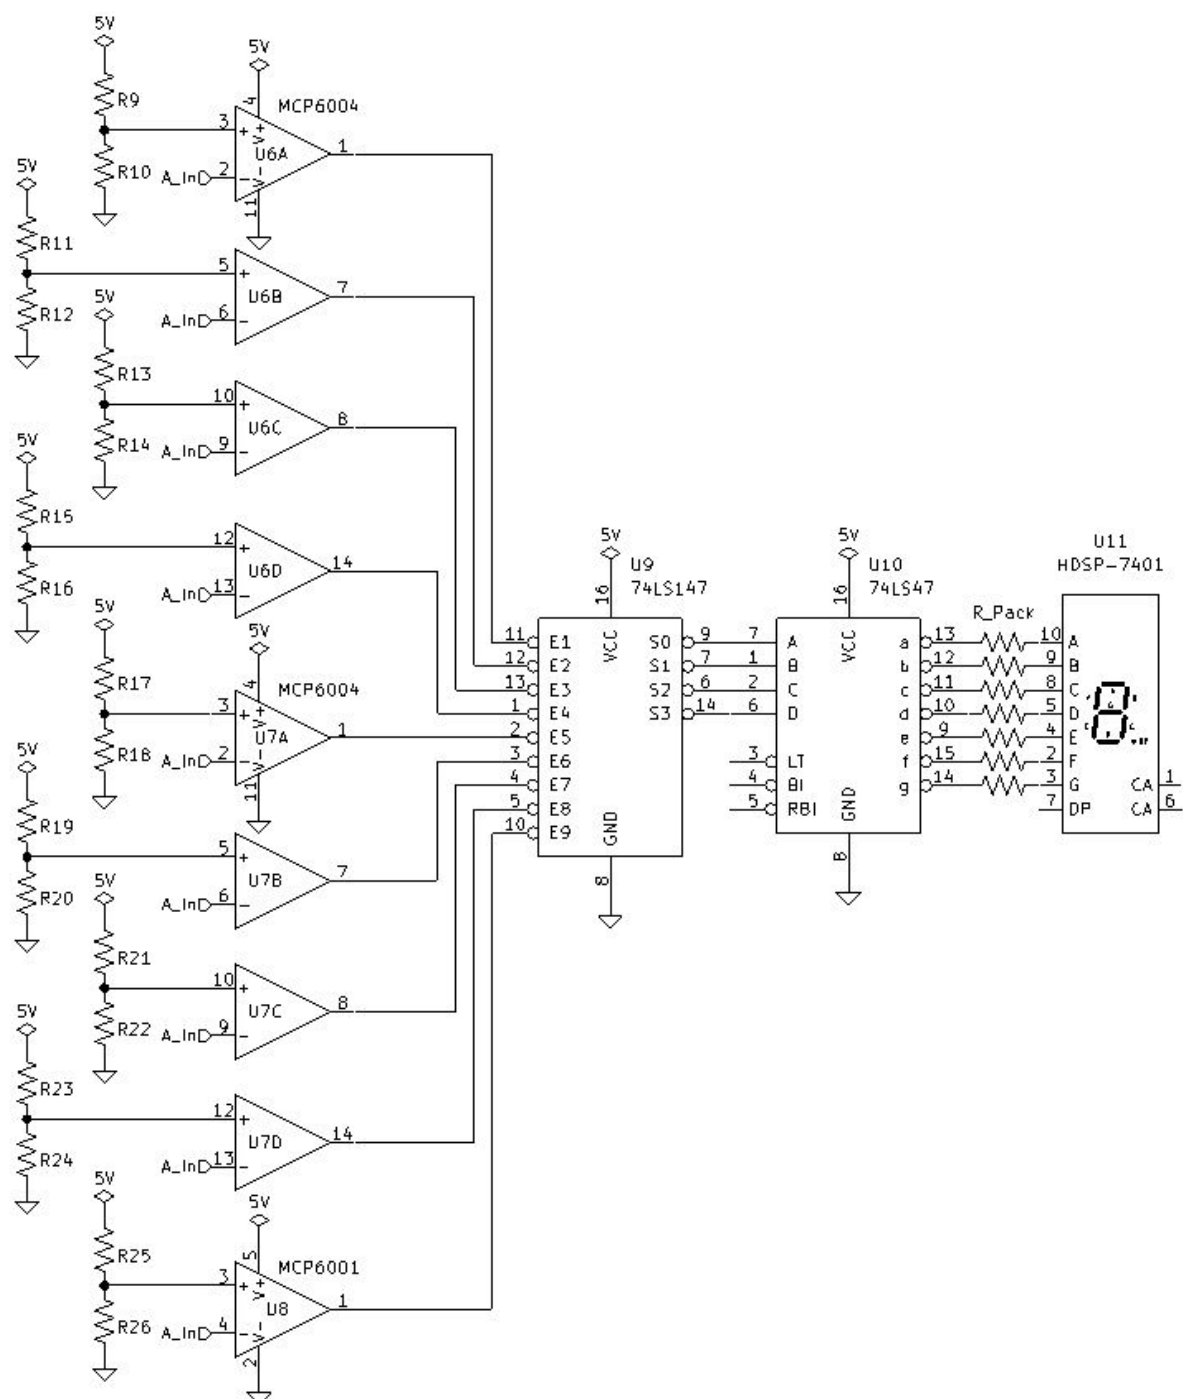

Figure 8.2: ADC Engineering Department Prototype Circuit.
1. The Engineering Department has sent you an ADC prototype circuit that they are working on. The ADC circuit is not working as expected. The Engineering Department needs you to analyze the circuit and make sure all the connections are correct. See Figure 8.2 *ADC Engineering Department Prototype Circuit* on page 66.